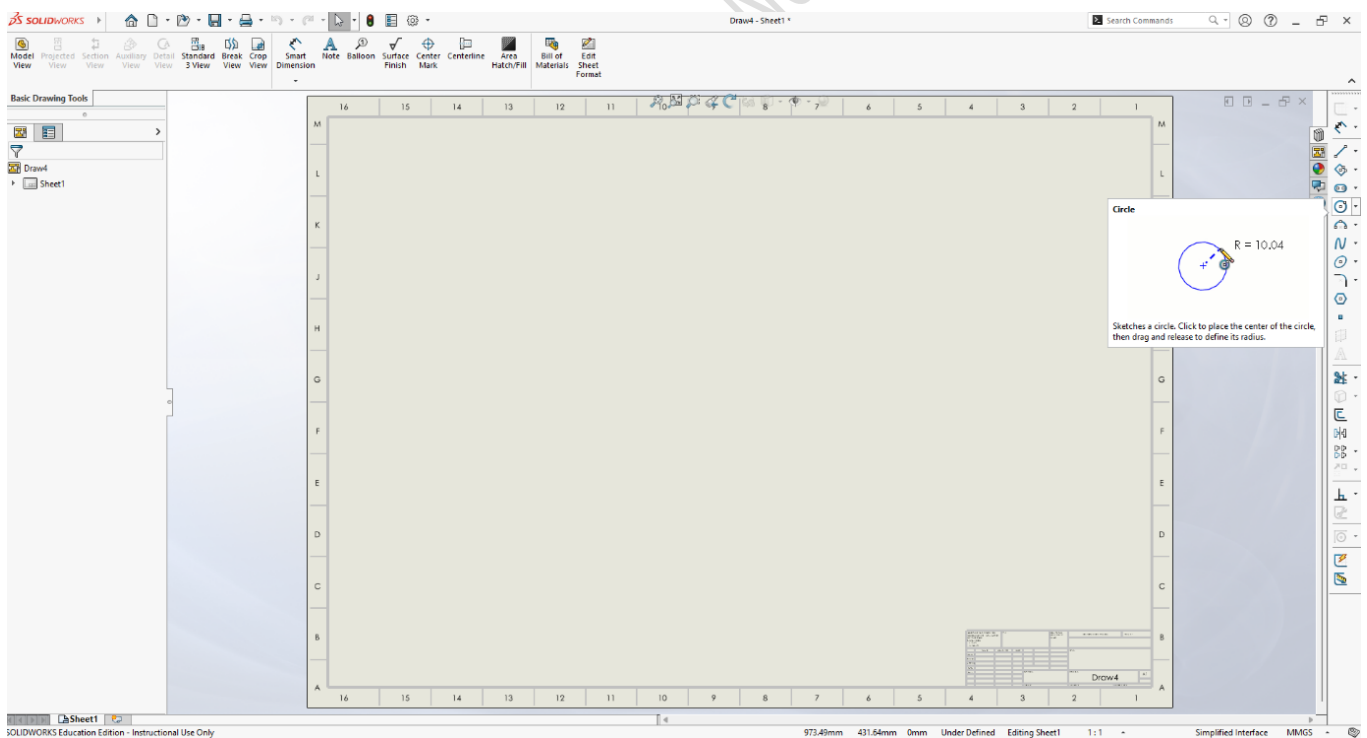

Figure 2.10: Location of Circle Tool
2. Circle: The Circle tool helps to draw circles (Figure 2.10). The steps to draw circles are as follows: